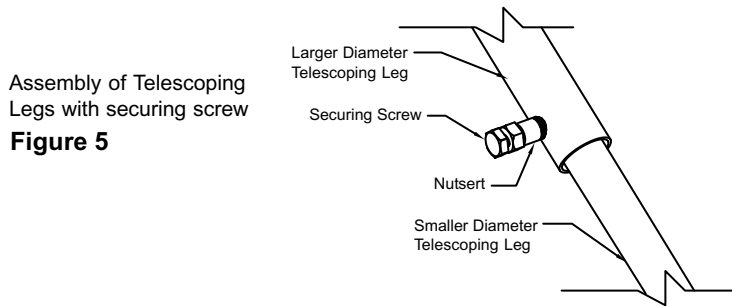

Figure 5
- F. Assemble the telescoping tubes by inserting the smaller diameter into larger one. Tighten the bolt which locks the two tubes together very firmly. We recommend that you screw the inside and outside tubes together using # 8 x 1/2" screws to permanently lock them in place (see Figure 5). Repeat for the other telescoping leg assembly.